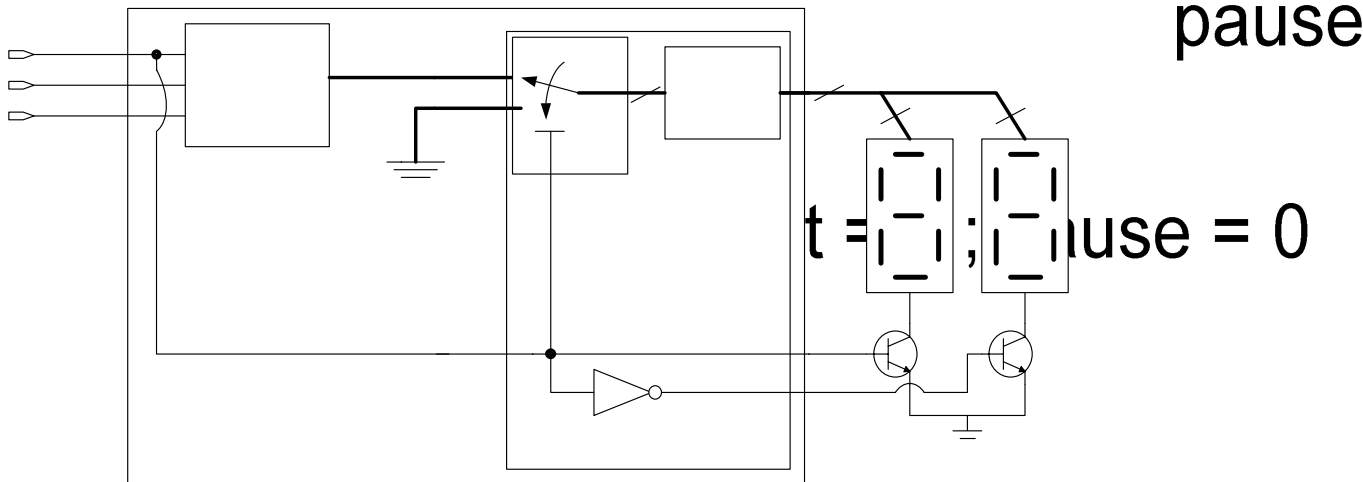

Figure 4; Complete system to be implemented in this lab
The design of the whole system will follow a modular scheme. We will first describe and simulate a counter, then a display controller, and finally the whole system. A block diagram of the whole system is shown in figure 4.
Now we will create a VHDL file to integrate the counter and the display controller in a single system (figure 4).
4. Components instantiations; once the components are declared, they must be instantiated. This means the connections between components and/or signals inside the system must be declared. The declaration area for components instantiations is under the comment – *Components Instantiations* – in the top\_counter.vhd file. Use the inverter instantiation as an example. Use the block diagram in figure 4 as a map to complete the connections.